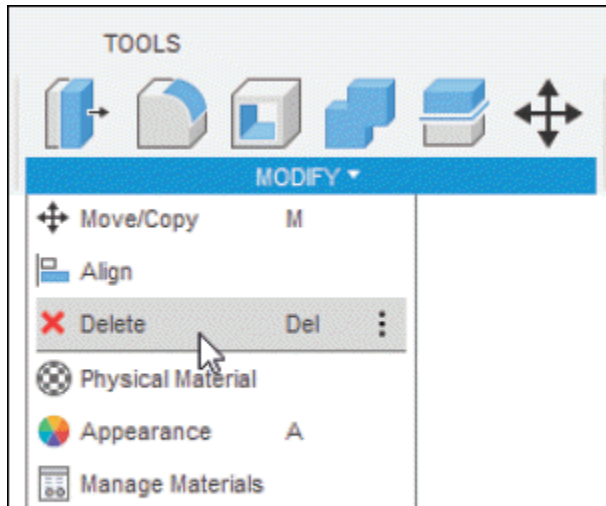

Figure-62. Delete tool
- Click on the **Delete** tool of **MODIFY** drop-down from **Toolbar**; refer to Figure-62. The **DELETE** dialog box will